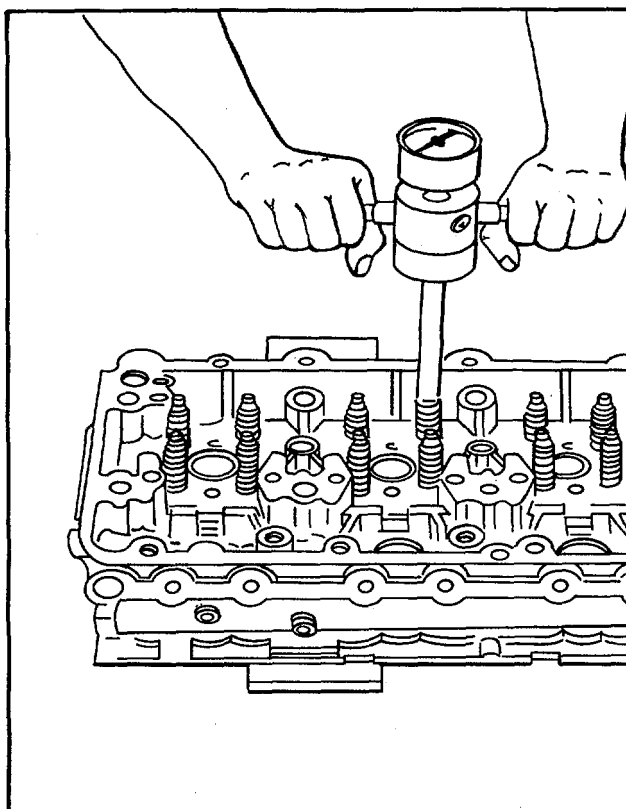

Figure 18. Checking Valve Opening Pressure with Gage J 25076-01
11. With the exhaust valves installed in the cylinder head, use spring checking gage J 25076-01 and note the gage reading the moment the exhaust valve starts to open (Fig. 18). The minimum pressure required to start to open the exhaust valve must not be less than 33 pounds for a two-valve cylinder head or 25 pounds for a four-valve cylinder head.